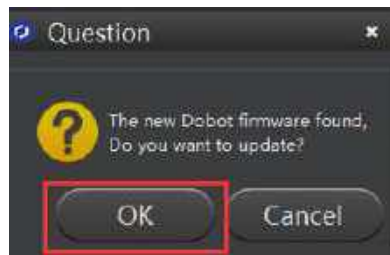

Figure 5.53 Confirm the firmware upgrade
2. Click **OK**, as shown in Figure 5.53.